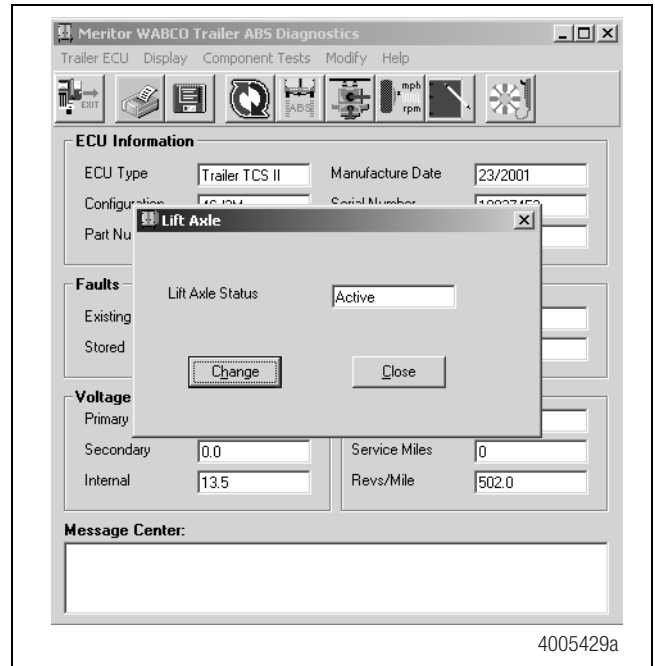

Figure A-3
3. To change the default status and activate the lift axle function, click on **Change**. The **Lift Axle Status** will change to **Active**. Figure A-3.
6. Follow Steps 2 and 3 to display the **Lift Axle Status** screen. Verify the lift axle status display indicates the lift axle function is active, as illustrated in Figure A-3.